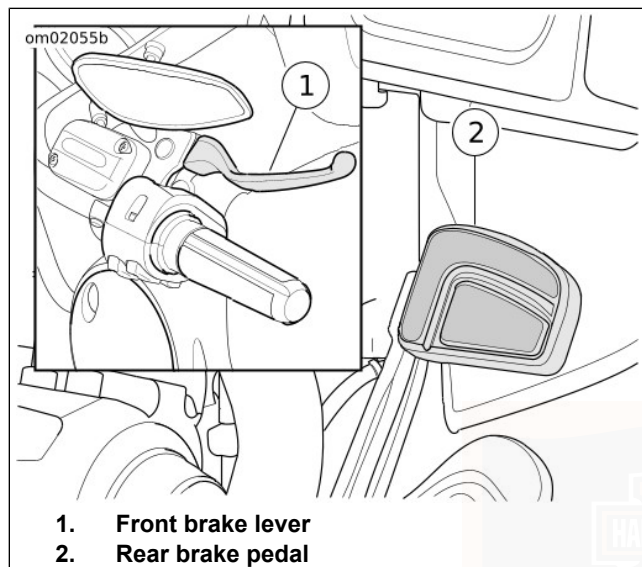

Figure 37. Brake Controls
See Figure 37. The front brake hand lever (1) controls the front wheel brake. The lever is on the right handlebar. Operate the hand lever with the fingers of the right hand.
See Figure 37. The rear brake pedal (2) controls the rear wheel brake. The pedal is on the right side. Operate the rear brake pedal with the right foot.